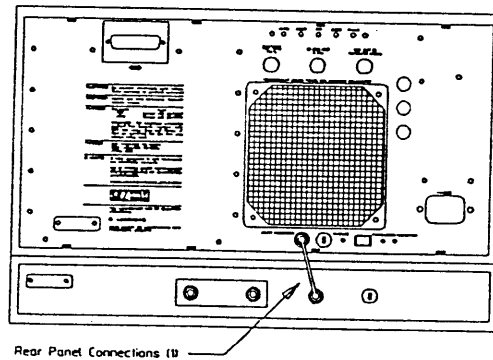

Figure 5-2. Rear panel Interconnect cable Installation
2. Install the test set interconnect cable (35677-61620) between the rear panels of both instruments as shown in figure 5-2. This cable